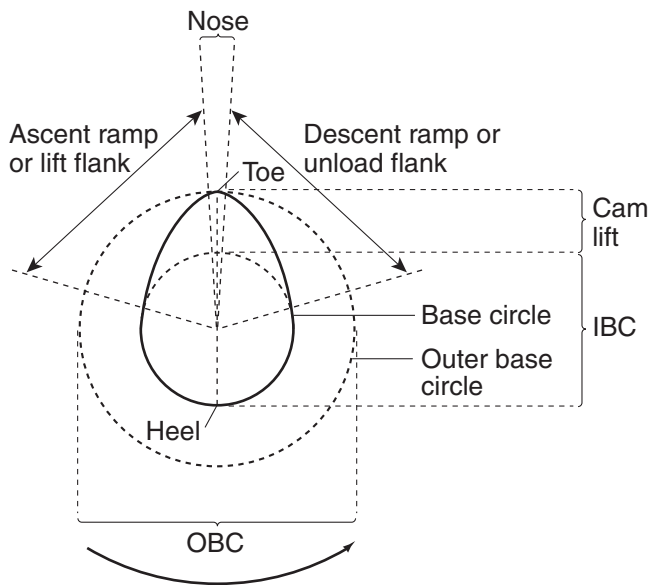

Figure 5-4 Camshaft terminology.
it actuates will be loaded for most of the cycle. What a cam profile is required to do, determines whether it uses a mostly IBC or mostly OBC design. In some cases, you will come across a design that is a mix of both. **Figure 5-4** explains some cam terminology as it applies to a cam whose profile is mostly IBC.
2. Referencing **Figure 5-4**, make the cam profile heel-to-toe dimension and check to OEM specifications. Make the base circle dimension and check to specifications. Subtract the base circle dimension from the heel-to-toe dimension to calculate the cam lift dimension. Check to specifications. Cam lift can also be measured using a dial indicator with the camshaft mounted in V-blocks. Zero the dial indicator on the cam base circle and rotate the camshaft to record the lift. Ensure that a dial indicator with sufficient total travel to measure the specified lift is used. When checking the cam lift dimension with the camshaft in-engine using a dial indicator, the measurement may not exactly match the OEM spec, even when the cam profile is in good condition. This variance is usually due to the lie of the camshaft in the support journals.